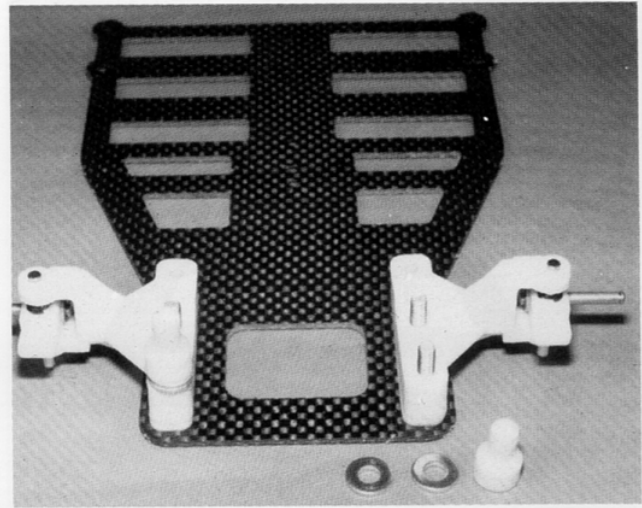

Fig. 8
□ **Fig. 8**—Open Bag #2. Mount the front body mounts onto the front screws. The height of the body mounts can be adjusted by washers according to the body you're using.